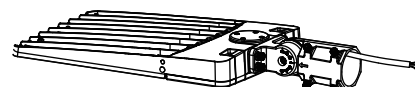

Figure 2
- Step 2: Install the bracket on the fixture (Figure 2)